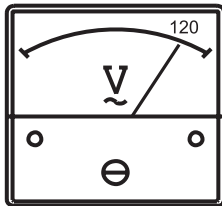

Figure 29. AC Voltmeter
7. The **AC voltmeter** (Figure 29) will display the generator's output in **VOLTS**.